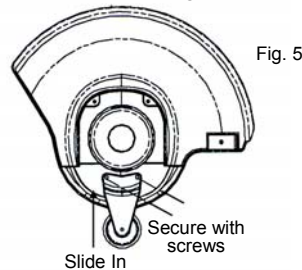

Fig. 5
2. Slide the edging guide wheel into place and screw with the two (2) screws provided. (Fig. 5)